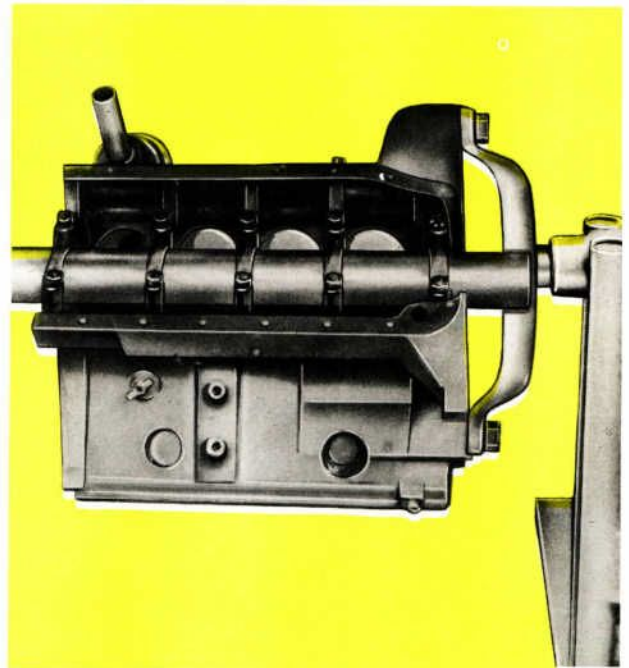

FIGURE 98. CHECKING MAIN BEARING BORE ALIGNMENT
2. Now, with all components removed and the usability of the block certified by a magnaflux text, check the main bearing bores for specified diameter and alignment with each other. (Detailed assembly procedures are provided in Appendix I to this manual.) (See Figure 98.)